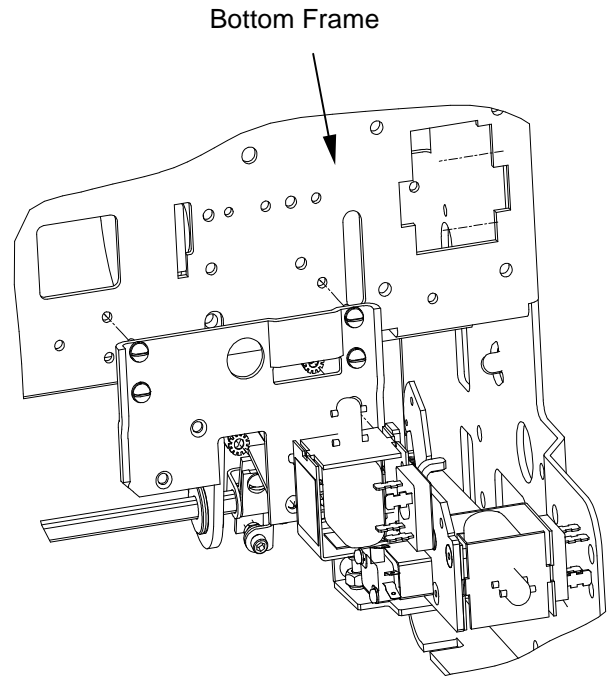

Figure 5. Mounting the Network Interlock assembly to the circuit breaker bottom frame. (Shunt Trip omitted for clarity.)
7. Assemble the accessory mounting plate to the circuit breaker bottom frame using four sets of #10-32 screws, spring washers, and flat washers as shown in Figure 5.
3. Remove the accessory mounting plate as shown in Figure 5.
Use the following procedure to install the Network Interlock module as a replacement, as illustrated in Figure 5.
5. Assemble the accessory mounting plate to the circuit breaker frame using four sets of # 10-32 screws, spring washers, and flat washers as shown in Figure 5.